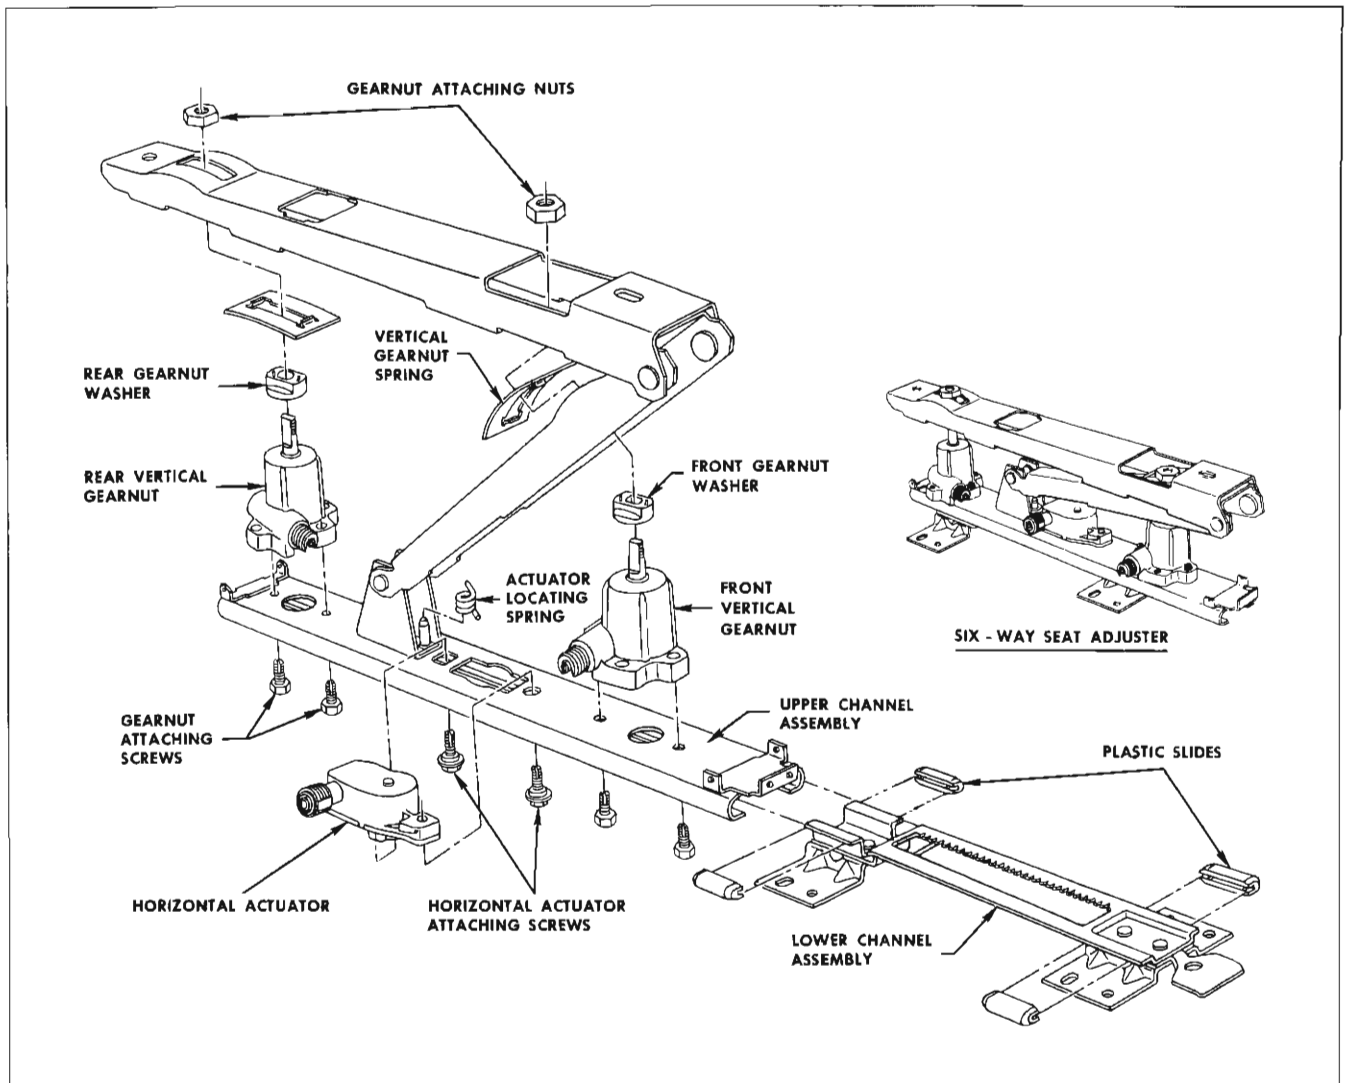

Fig. 8-8 Six-Way Seat Adjuster Parts
Figure 8-8 identifies the component parts of the six-way seat adjuster. The following service procedures cover replacement of major parts of adjuster.
4. Remove front vertical gearnut spring (Fig. 8-8).
IMPORTANT: The horizontal actuator is under tension from spring shown in Figure 8-8. When installing actuator, be sure actuator locating spring is properly engaged with actuator.
3. If lower channel is being replaced with a new part, transfer plastic slides to new part (Fig. 8-8).
5. Remove gearnut spring (Fig. 8-8).
6. Lay adjuster on its side and remove gearnut attaching screws (Fig. 8-8) at under side of lower channel, then remove gearnut from adjuster.
5. Transfer front and rear gearnuts to new upper channel (Fig. 8-8).